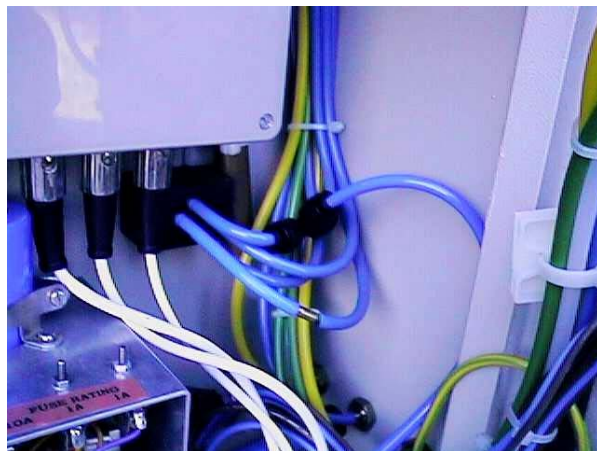

Figure 3
4) Cut any one of the blue pipes in the corner of the grey control cabinet and insert the push-in tee piece. See Figure 3. Connect a blue pipe between the tee piece and the shut-off valve, routing it through one of the mounting holes in the back of the cabinet.